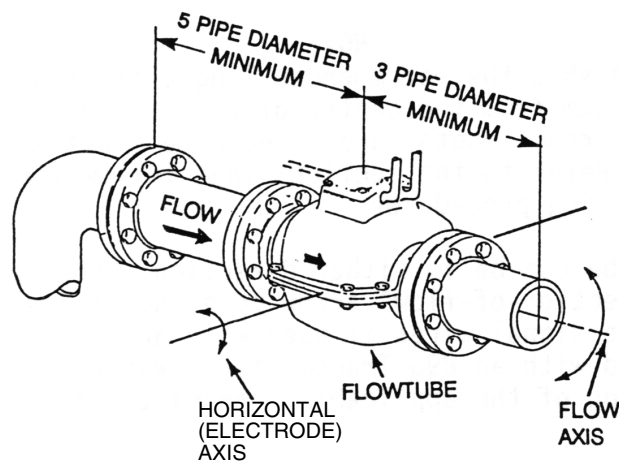

Figure 7. Flanged Body Flowtube Mounted Horizontally
- ◆ When installed in a horizontal pipe, the flowtube should be oriented so that the electrodes are not located near the top or bottom of the pipe (see Figure 7). Adjacent piping may be elevated so as to maintain a full flowtube.